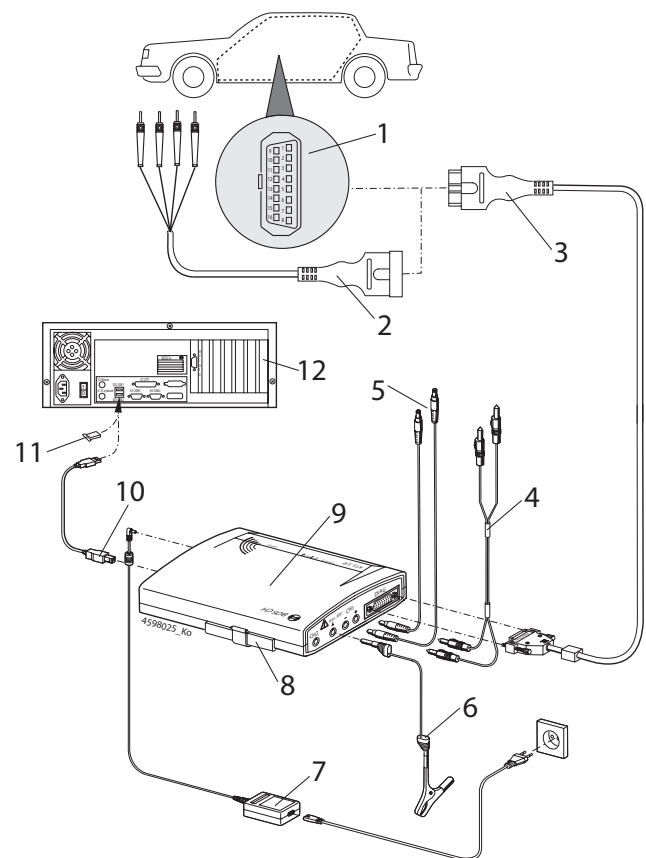

Fig. 3: Connection diagram in an example for the KTS 570
Only use the UNI connection cable (fig. 3, item 2) for measurements with less than 30 V.
- The OBD diagnostic cable (fig. 3, item 3), or
- the OBD diagnostics cable and the UNI connecting cable (fig. 3, item 2) or